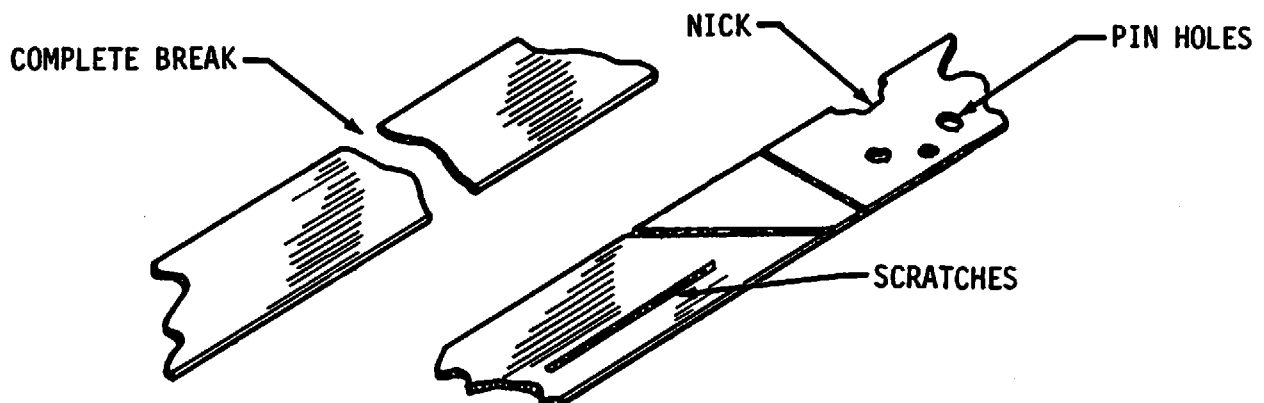

FIGURE 4-2. TYPICAL PRINTED WIRING DAMAGE
- 4-32. Repair Of Damaged Or Defective Conductor. A damaged conductor may be a complete break or scratches, nicks, or pinholes which reduce the cross-sectional area of the conductor beyond original design specifications (See Figure 4-2).